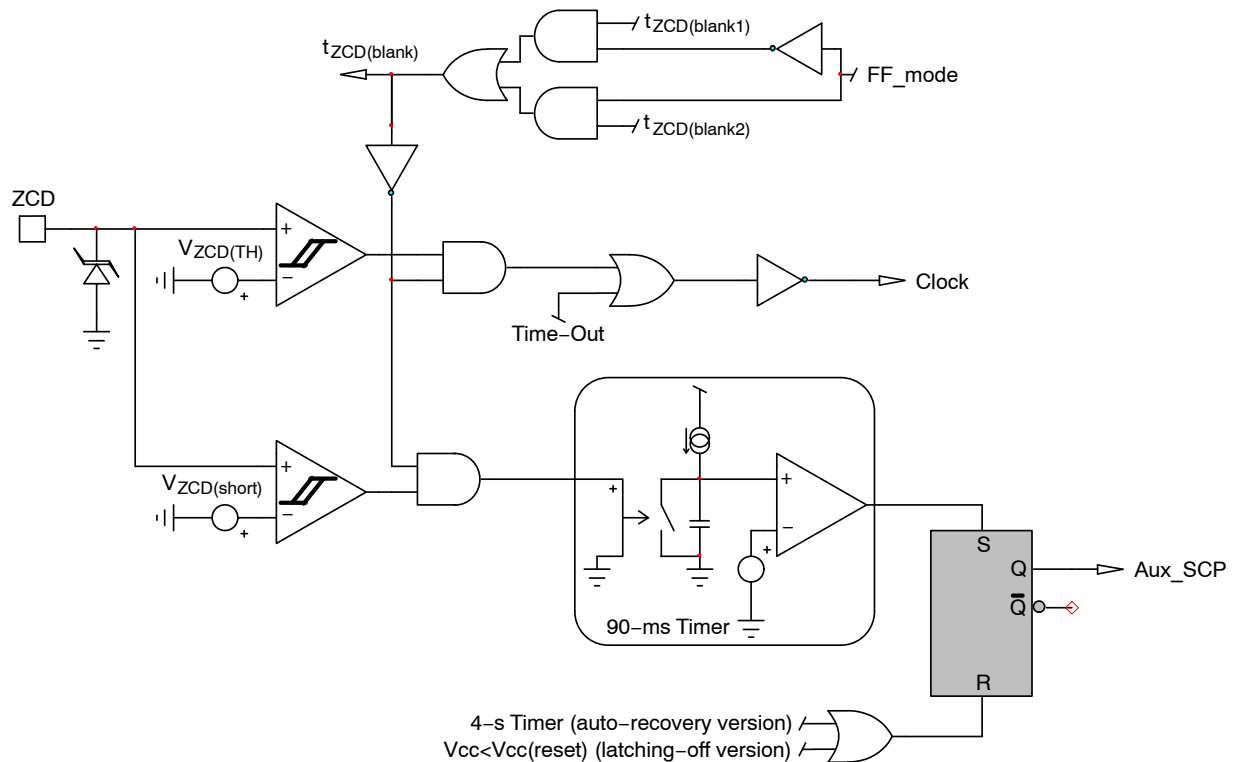

**Figure 60. Start-up Sequence in a Load Short-circuit Situation (auto-recovery versions)**
- If the load is shorted, the circuit will operate in hiccup mode with  $V_{\text{CC}}$  oscillating between  $V_{\text{CC(off)}}$  and  $V_{\text{CC(on)}}$  until the AUX\_SCP protection trips (AUX\_SCP is triggered if the ZCD pin voltage does not exceed 1 V within a 90-ms operation period of time thus indicating a short to ground of the ZCD pin or an excessive load preventing the output voltage from rising). The NCL30186A and NCL3006C latch off in this case. With the B and D versions, the AUX\_SCP protection forces the 4-s auto-recovery delay to reduce the operation duty-ratio. Figure 60 illustrates a start-up sequence with the output shorted to ground, in this second case.